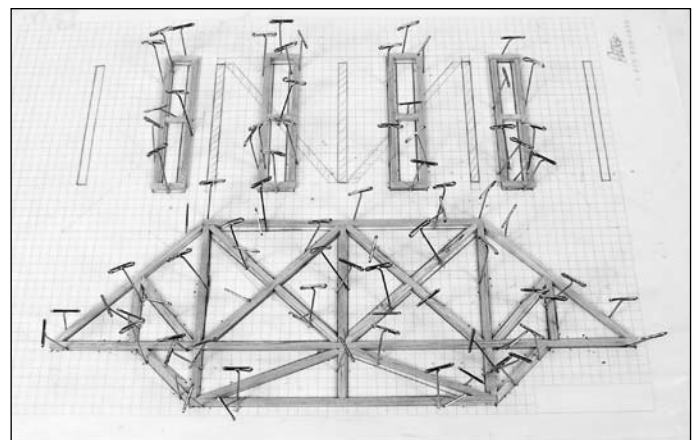

Figure 28 – Side of the bridge and roadway braces completed
8. Cut and construct the cross braces that support the roadway of the bridge (Figure 28). Build each of